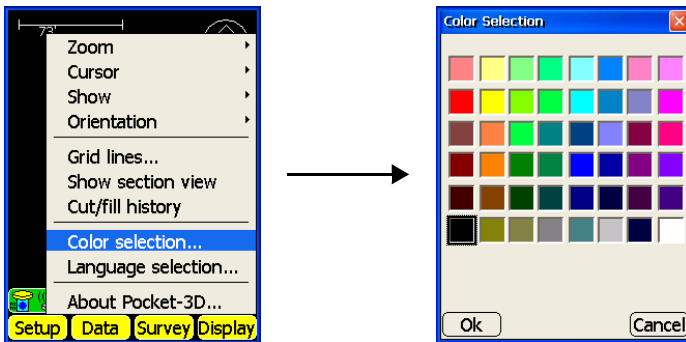

Figure 1-29. Change Background Color
1. To change background color, tap **Display ▶ Color selection** (Figure 1-29 on page 1-29).
2. On the **color selection** dialog box, select an appropriate contrasting color (from the displayed points, surface, linework, alignment, etc.) and press **Ok** (Figure 1-29 on page 1-29).